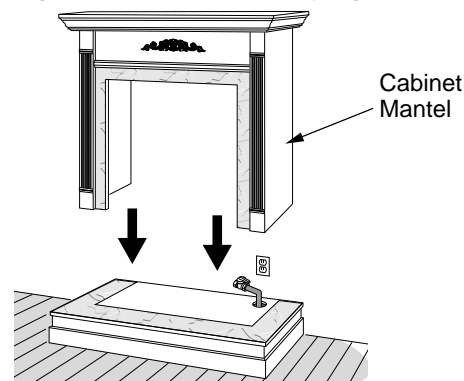

Figure 10 - Installing Cabinet Mantel
6. Center cabinet mantel on hearth base (see Figure 10). Make sure mantel is flush against wall.